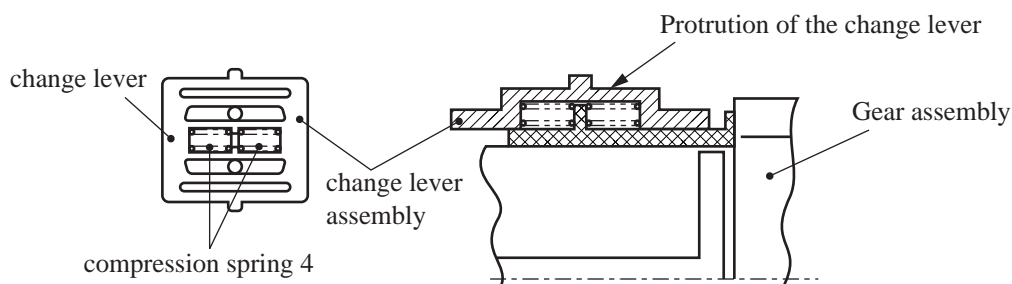

Fig. 4
- 2) Assemble the speed change lever assembly on the protrusion of the change lever as shown on the figure 4 while using care that the compression spring 4 may not jump over.